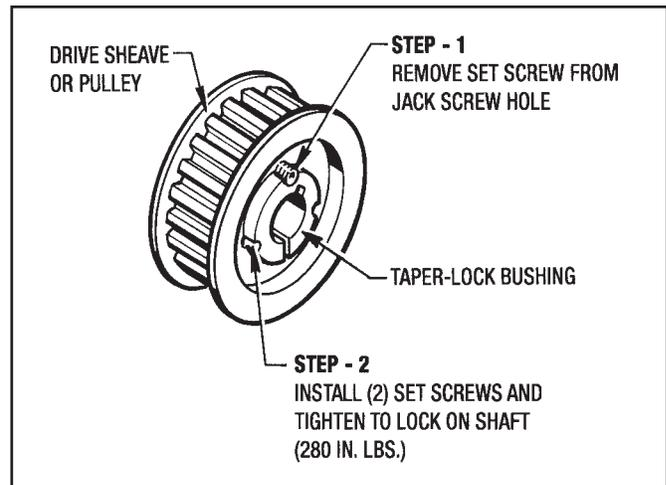

Figure 6.2 - Installation of Drive Sheaves
1. Install the (2) Sheaves (#738) and Bushings (#740) and (#741) back on their respective shaft. (See Figure 6.2 for Installation Procedure.)
1. Using the same procedure as described for the Output Sheaves and Drive Belt, install Sheave (#710) on the *Posidyne* Input Shaft and Sheave (#711) on the Drive Motor Shaft. (See Figure 6.2 and 6.3 for Installation and Alignment Procedure.)